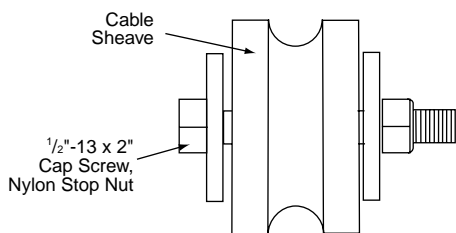

Figure 2
- ③ Install sheaves in top post sheave assemblies with 1/2"-13 x 2" carriage bolts and fiber lock nuts (see Fig. 2).